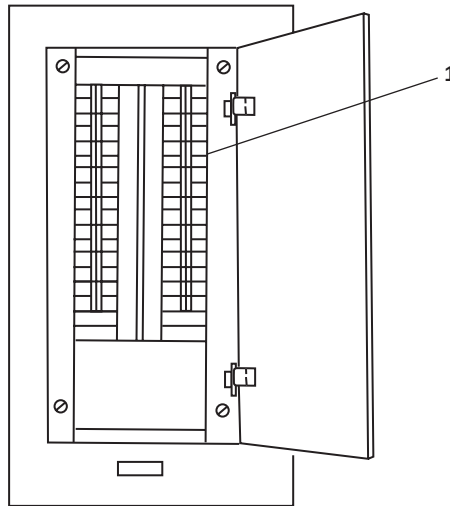

Figure 1. 120V Emergency Distribution Panel No. 1
1. Set to OFF the TLI SYSTEM. circuit breaker (figure 1, item 1) at 120V emergency distribution panel No. 1. Lock out and tag out (FM 55-502).